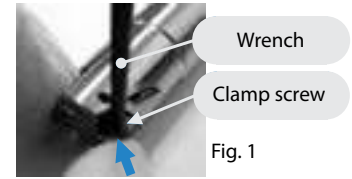

Fig. 1
2. Attach the screw (magnetic head) to the front end of the wrench. While lightly pressing the insert against the constraint surfaces, put the screw into the hole of the insert and tighten. (Ref. to Fig. 1)